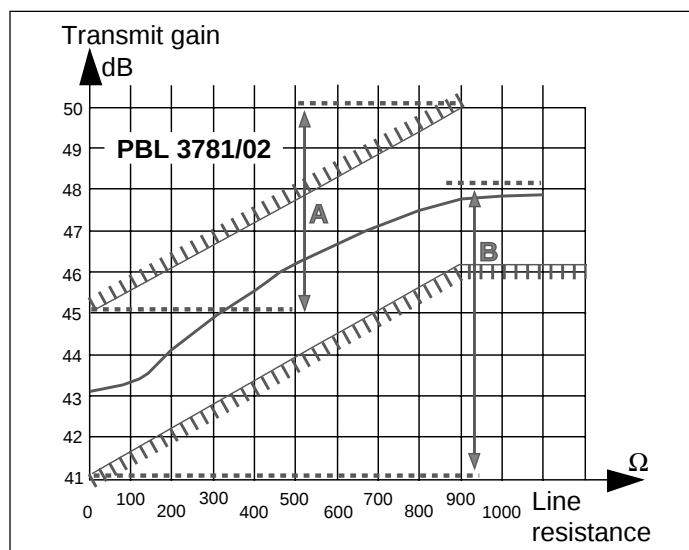

Figure 6. Transmitting gain, gain versus line resistance.
| Transmitting gain, gain versus line resistance, $V_2, V_3$ . See figure 6. See note1. |           | $20 \cdot \log(V_2/V_3)$$f = 1\text{ kHz}$ , (adjustable with $R_2$ & $R_3$ )                                                                 |       |       |       |      |
**Note 1.** For a circuit with a gain of 41 dB at  $R_L = 0 \Omega$ , the gain will be minimum 46 dB as specified or maximum 48 dB at  $R_L = 900 \Omega$  since the gain regulation range must be less than 7 dB (B in fig. 6).
Correspondingly, if the gain is 45 dB at  $R_L = 0 \Omega$ , the gain will be maximum 50 dB as specified or minimum 48 dB at  $R_L = 900 \Omega$  since the gain regulation range must be more than 3 dB (A in fig. 6).